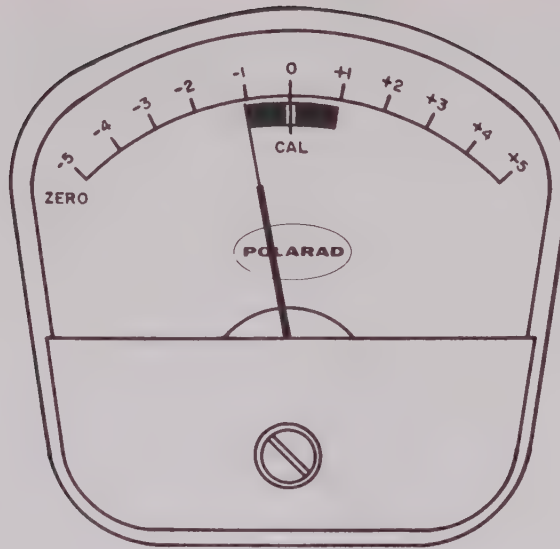
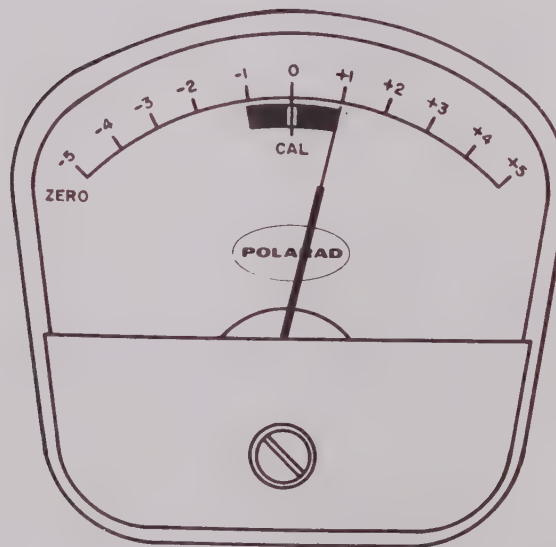

Figure 4-34. Power Monitor Meter Pointer Deflection
Figure 4-35. Power Monitor Meter Pointer Deflection
m. Adjust S.C. Opr Bias control R713 (R413) to obtain a power monitor meter pointer deflection shown in figure 4-35 (figure 4-35).
m. Rotate S.C. Opr Bias control R613 (R513) to obtain a power monitor meter pointer deflection corresponding to figure 4-34 figure 4-35).